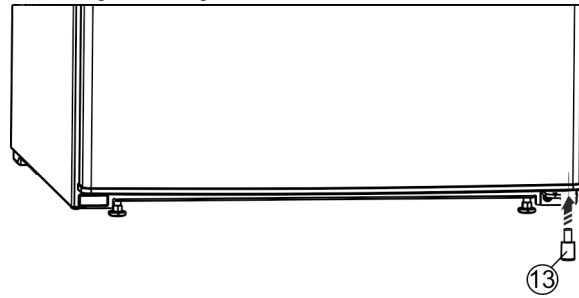

Fig. 11
- ▶ Insert the spacer Fig. 11 (13) back under the right-hand side of the door, as this is important for the stability of the appliance.